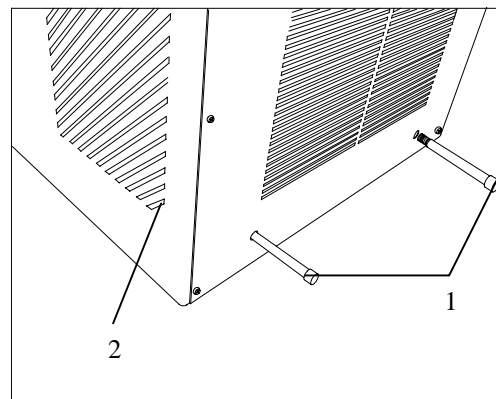

Fig. 6a
- the distance between wall and rear panel is approx. 15 cm. For this, install the distance bolts (fig. 6a.1).
- the suction areas on either side are kept free (fig. 6a.2).